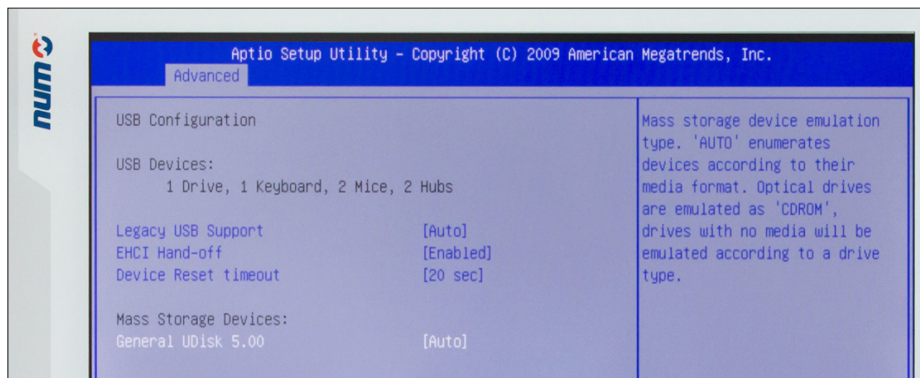

Fig.1
2. Go to *Advanced -> USB Configuration -> Mass Storage Devices -> General UDisk 5.00* and then select *"Hard Disk"* (refer to figures 1, 2 and 3 ).